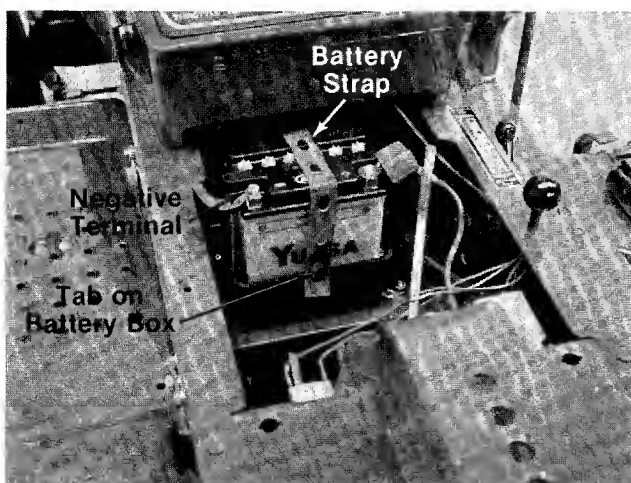

FIGURE 10.
6. Secure the battery to the battery box by stretching the battery strap across the battery. Loop the end around the tab on the side of the battery box. See figure 10.
7. Slide the square nut (provided with battery hardware) into the positive (+) terminal. Place the positive (heavy red wire) cable and the small red wire on the positive terminal. Secure with screw and lock washer provided. See figure 10.